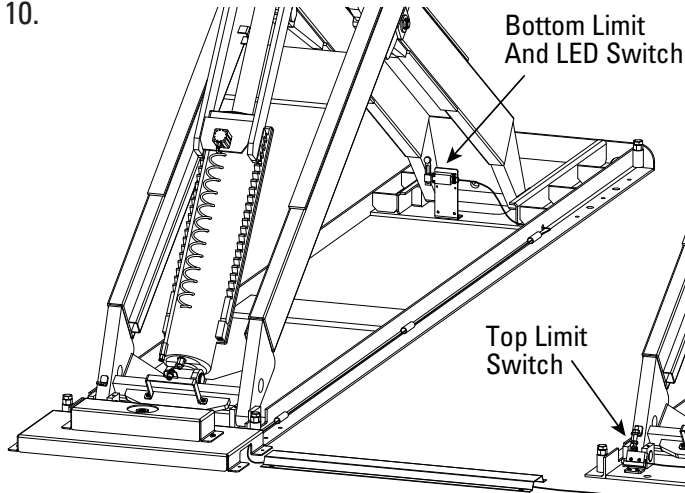

Fig. 10
1. Connect top limit switch wire connections 11/12, Fig. 10.